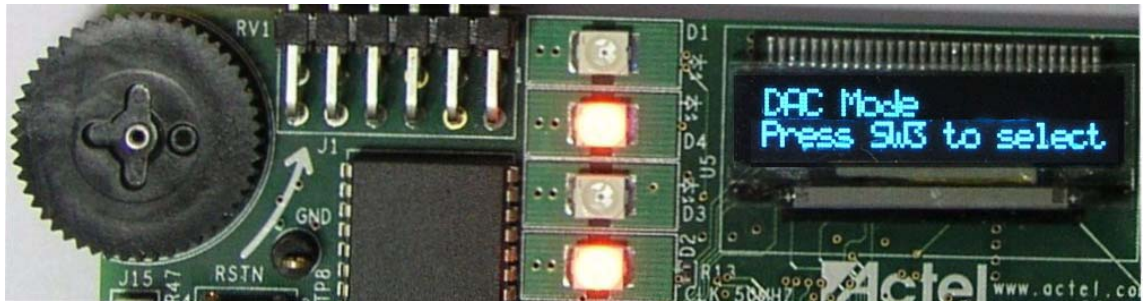

Figure 2-8 · DAC Mode
- Press SW2 to enter DAC mode (Figure 2-8).